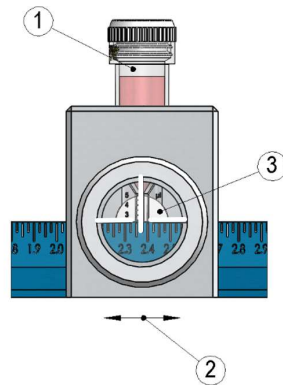

Figure 1. Magnifying glass
- After centrifugation, insert the PCV tube (Fig. 1) ① into the opening provided in the "easy read" after centrifugation.
- Move the magnifying glass (Fig. 1) ③ until the height of the cell pellet in the capillary is equal to the cross.